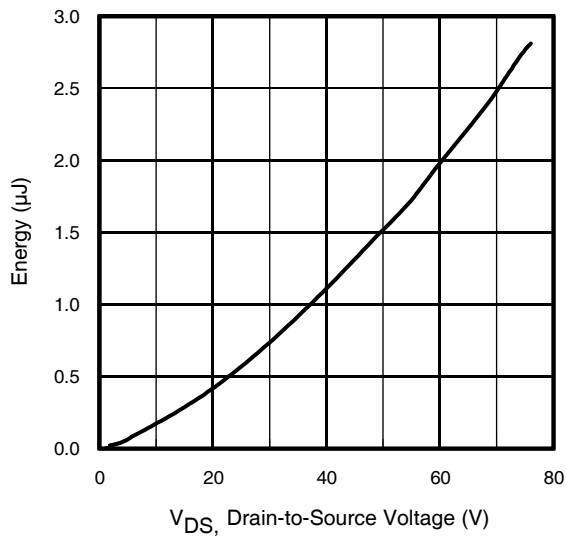

Fig 11. Typical  $C_{OSS}$  Stored Energy
| $C_{oss \text{ eff. (ER)}}$ | Effective Output Capacitance (Energy Related)⑦ | —    | 1090 | —    |       | $V_{GS} = 0V, V_{DS} = 0V \text{ to } 60V$ ③, See Fig.11 |